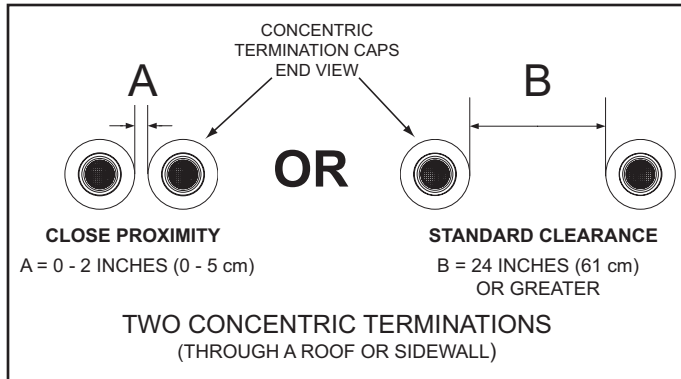
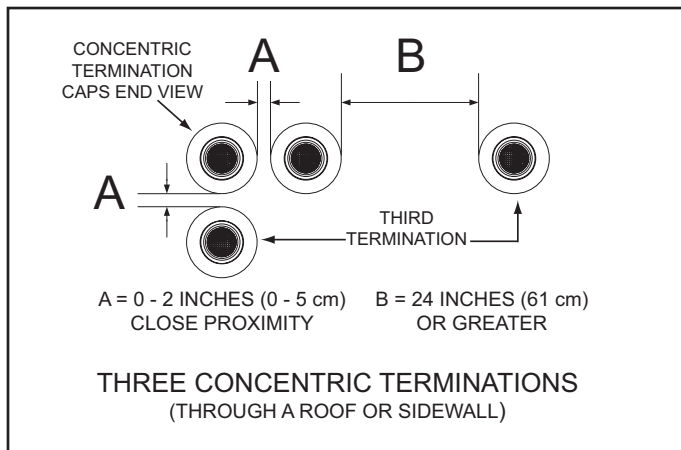
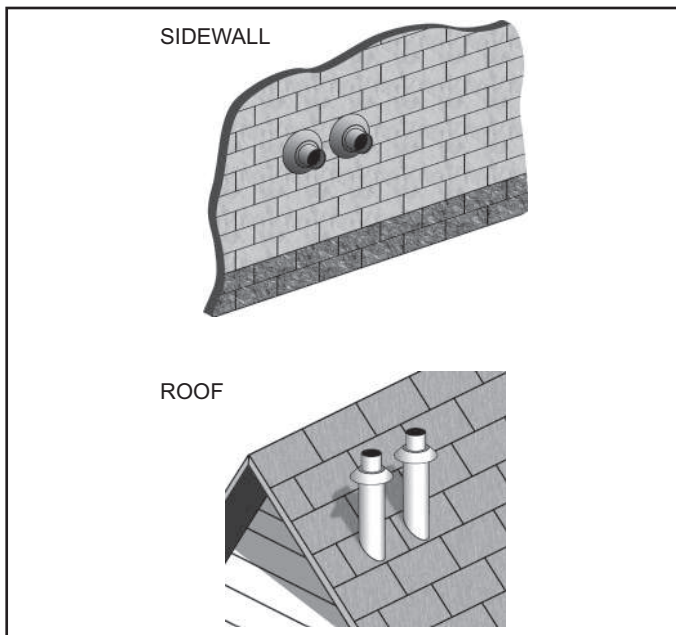

Figure 31
Figure 32
Figure 36
When installing multiple concentric terminations through a roof or through a sidewall the clearances shown in Figure 31 must be maintained.
1. The clearance between multiple termination caps must be 0 inches (touching) to a maximum of 2 inches (5 cm), dimension A - Figure 31, when installing concentric terminations in close proximity. See Figure 36 on page 32.
2. The clearance between multiple termination caps must be increased to a minimum of 24 inches (61 cm), dimension B - Figure 31, when installation in close proximity (above) is not possible. This is the standard clearance.
1. When installing three concentric terminations through a roof or through a sidewall the third termination may be installed in close proximity as indicated by dimension A in Figure 32.
2. If close proximity installation of the third termination is not possible the third termination may be installed as indicated by dimension B in Figure 32.
Two concentric terminations may be installed in close proximity as shown in Figure 36 or with standard clearances when this arrangement is not possible. See Figure 31 on page 31 for detailed information on clearances. See Figure 32 on page 31 when installing three concentric terminations.